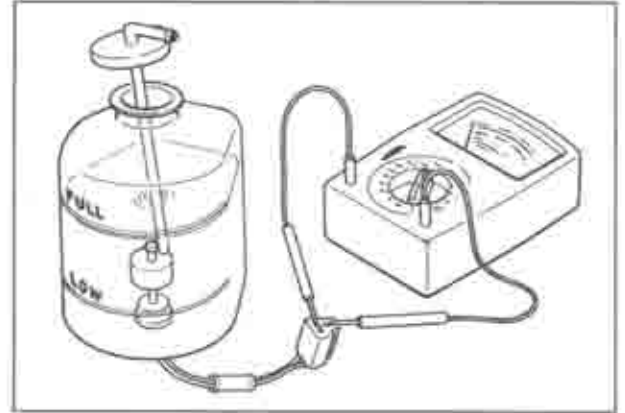

Fig. 3-14 Checking coolant level sensor
2. Connect the circuit tester to the coupler and check the continuity by moving the float up and down as shown in Fig 3-14.